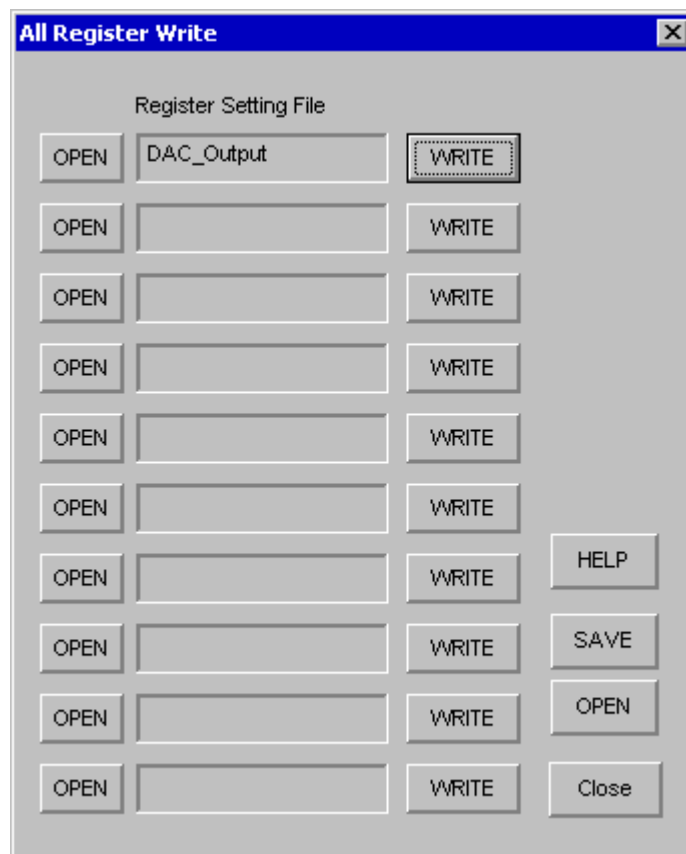

Figure 7. [F5] windows (2)
- (1) Click [OPEN] button and select the register setting file (*.akr).
The register setting file name is displayed as shown in Figure 7. [F5] windows (2). (In case that the selected file name is "DAC_Output.akr")
- (2) Click [WRITE] button, then the register setting is executed.